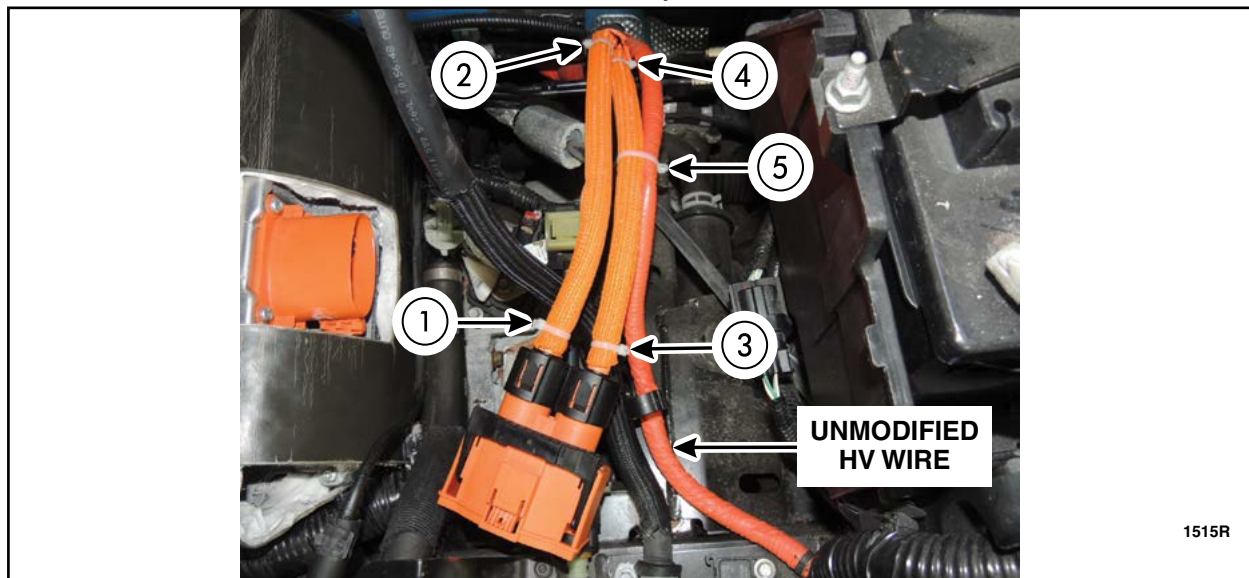

FIGURE 6
5. Install the supplied tie-straps to the HV wire harness in the sequence shown. Tie-strap "5" secures the unmodified HV wire to the nearest modified HV wire. Install the tie-straps so the straps are facing away from each other. Cut off excess length of the tie-straps. See Figure 6.